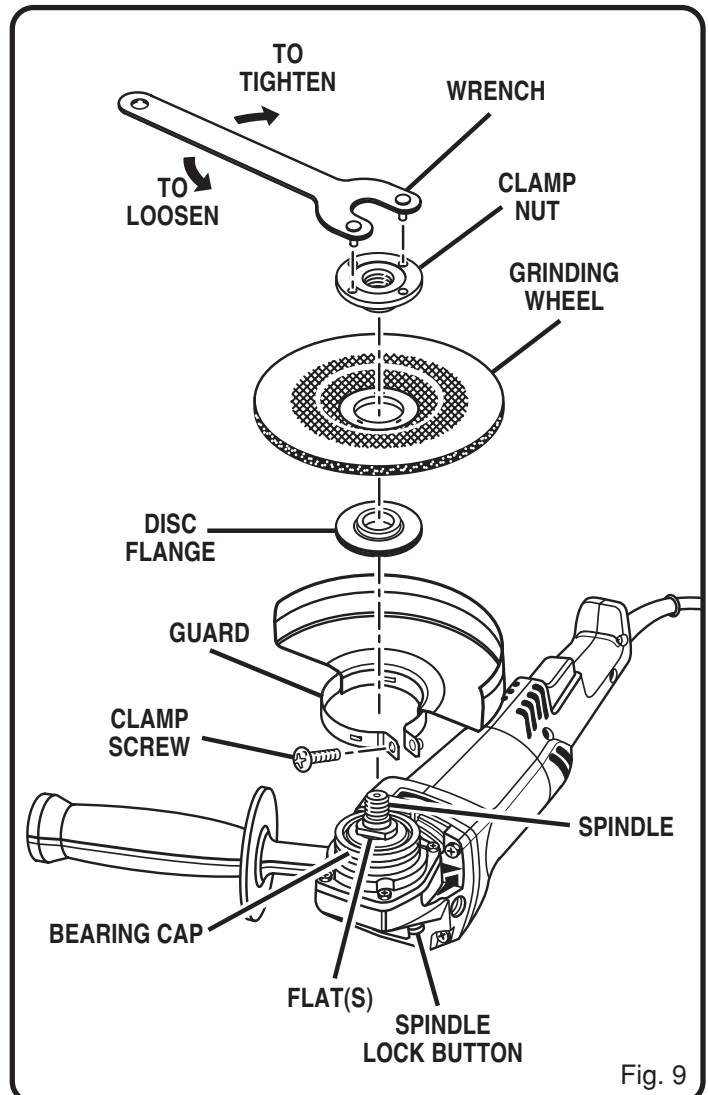

Fig. 9
See Figure 9.
- Remove and reassemble parts as shown in figure 9.
- Place the new guard on the shoulder of the bearing cap. See Figure 9.
- Rotate guard to the correct position as shown in figure 9.